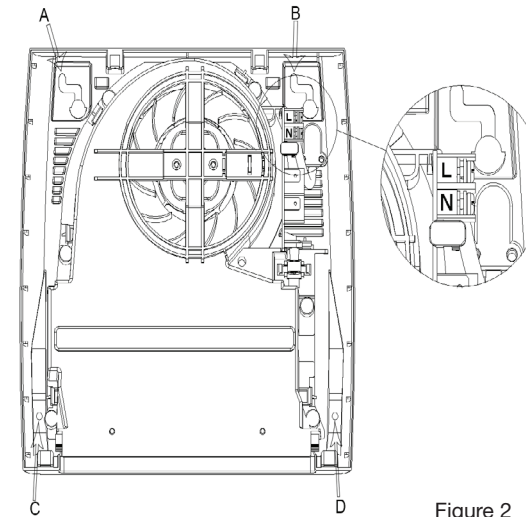

Figure 2
- Connect the Live (Red or Brown) cable to the terminal marked "L" and the Neutral (Blue or Black) cable to the terminal marked "N", see Figure 2. Ensure that there are no strands of cable left protruding from the terminal blocks. As the Bavaro downflow heater is a double insulated appliance the Earth cable should not be connected and if present should be terminated in a connector and wrapped in electrical tape to prevent nuisance tripping.